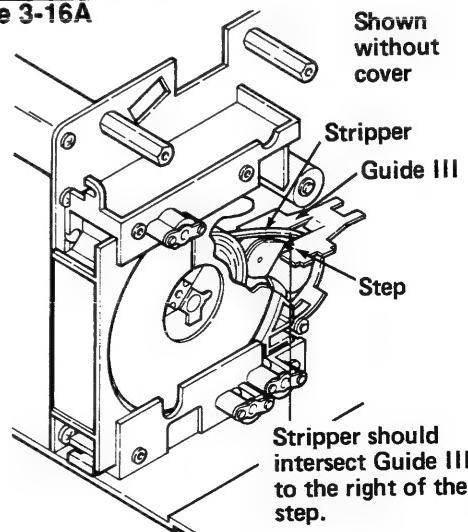

Figure 3-16B
13. Push in an ANSI Cartridge having only 1/3 of a roll of film and, while holding it in, observe that the Stripper intersects Guide III to the right of the step (Figure 3-16B).
2. Bend the Stripper as required so that it intersects Guide III to the right of the step (Figure 3-16B).